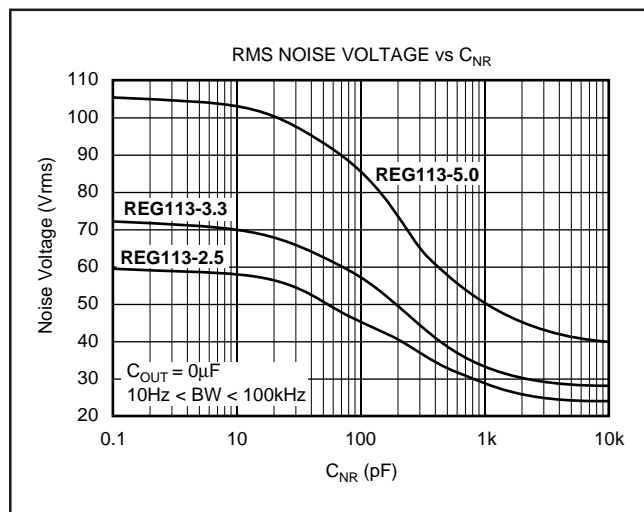
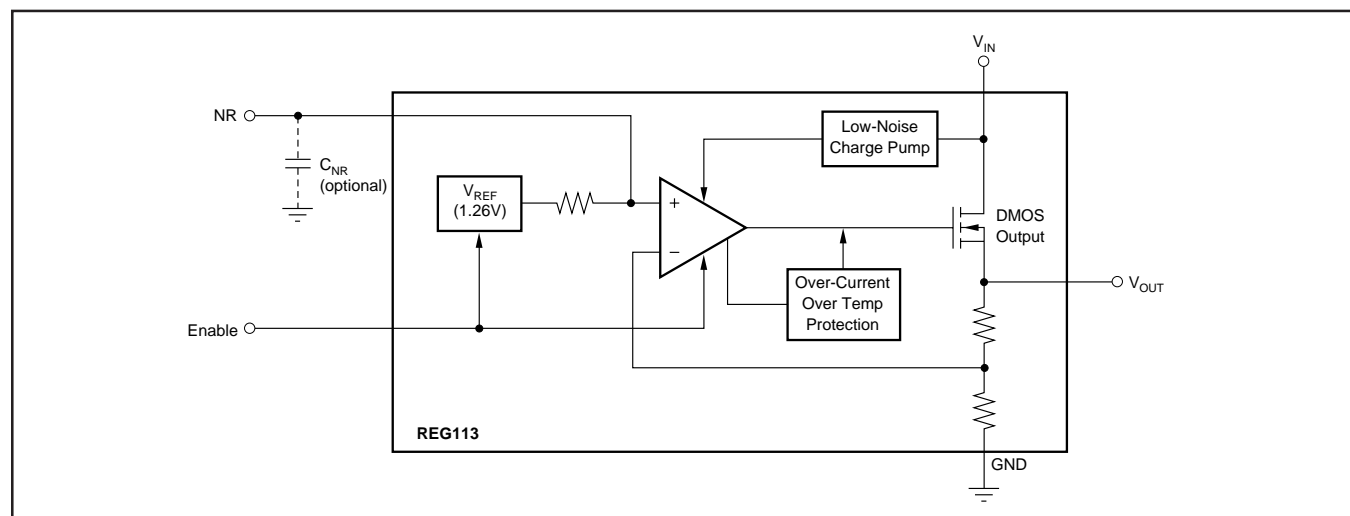

FIGURE 4. Output Noise versus Noise Reduction Capacitor.
FIGURE 3. Block Diagram.
Connecting a capacitor, C_{NR} , from the Noise Reduction (NR) pin to ground (as shown in Figure 3) forms a low-pass filter for the voltage reference. For $C_{NR} = 10nF$, the total noise in the 10Hz to 100kHz bandwidth is reduced by approximately a factor of 2.8 for $V_{OUT} = 3.3V$. This noise reduction effect is shown in Figure 4, and as *RMS Noise Voltage vs C_{NR}* in the Typical Characteristics section.